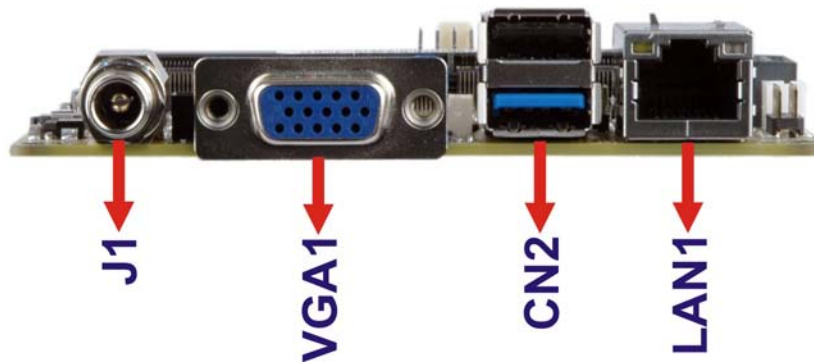

Figure 3-20: External Peripheral Interface Connector
Figure 3-20 shows the HYPER-BT external peripheral interface connector (EPIC) panel. The EPIC panel consists of the following:
CN Location: See **Figure 3-20**
CN Location:	See Figure 3-20
- CN Location: See **Figure 3-20**